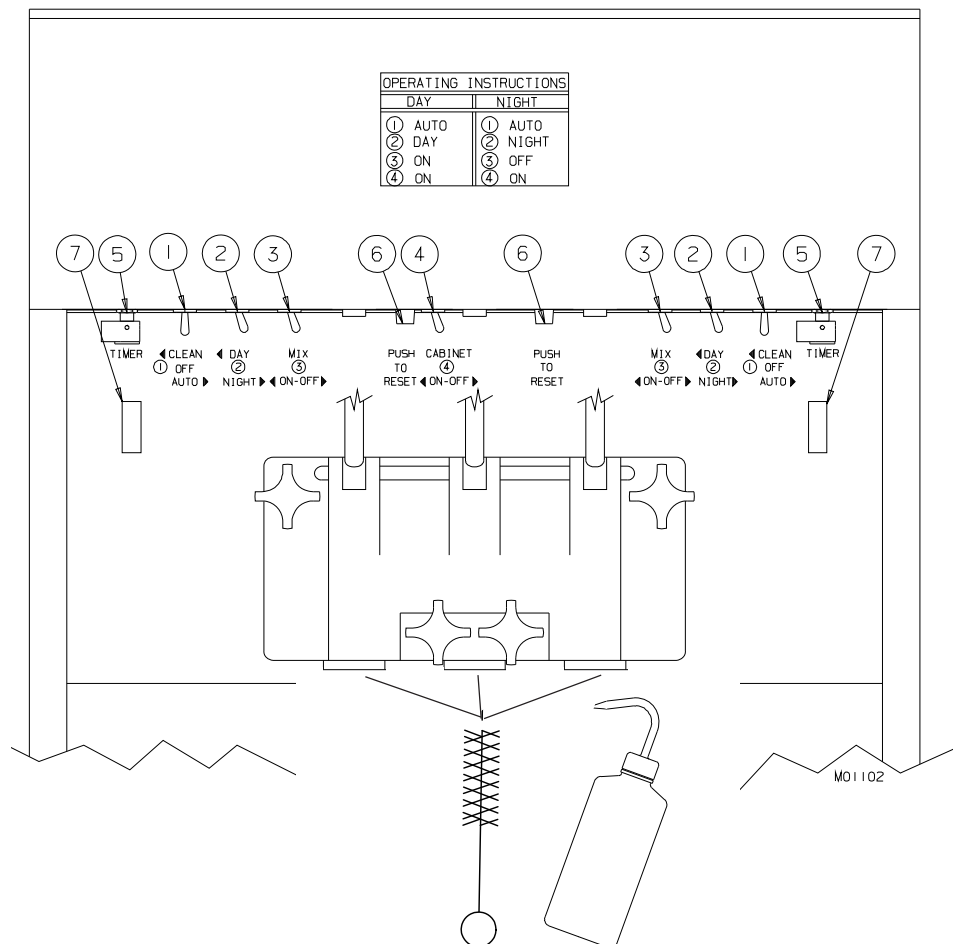

Figure 9-1
2. To switch the freezer to the night mode, leave the SELECTOR switches on "AUTO" (1, Figure 9-1) and the cabinet switch "ON" (4).
3. Turn the MTS switches to the "OFF" (3) position.
4. Turn the DAY/NIGHT switches to "NIGHT" (2) and let the machine cycle.
7. To start the machine after using the NIGHT mode, turn the DAY/NIGHT switches to "DAY" (2) and the MTS switches to "ON" (3). Before replacing sanitized nozzles use a small brush and sanitizer to clean the bottom of the plunger openings.